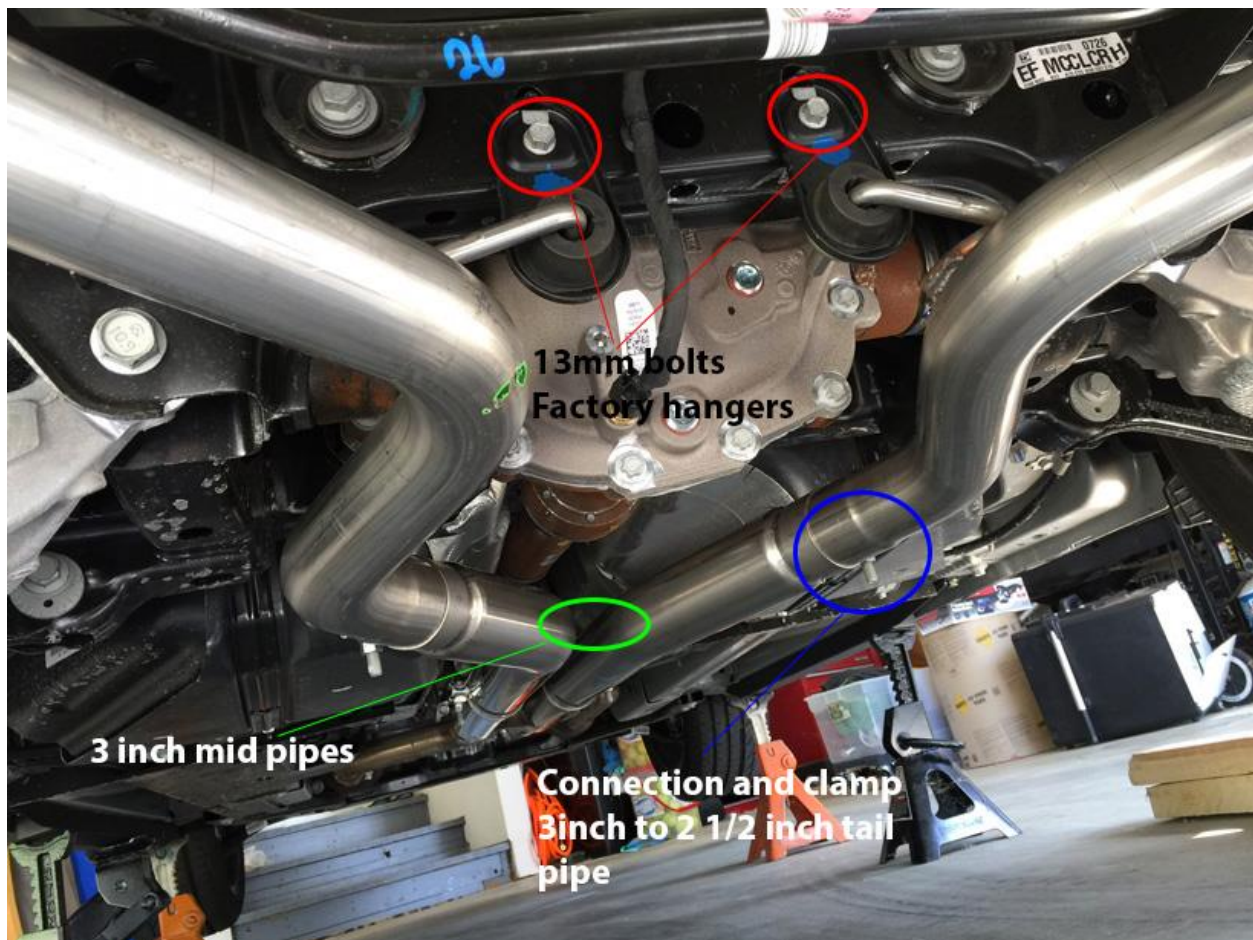

Figure 2c Assembled ARH tail pipes to mid-pipes
6. Attach the hangers you took off in Step 7 of the “Factory Exhaust Removal” (make sure the hook on the top of the hanger faces the front of the car see figure 2c) to the posts on both ARH tailpipes that are the furthest away from the mufflers.
11. Make sure the hook on the factory hanger is “hooked” on the bulkhead and secure with the 13mm bolt removed in step 4 of the removal phase. **(See figure 2c)**